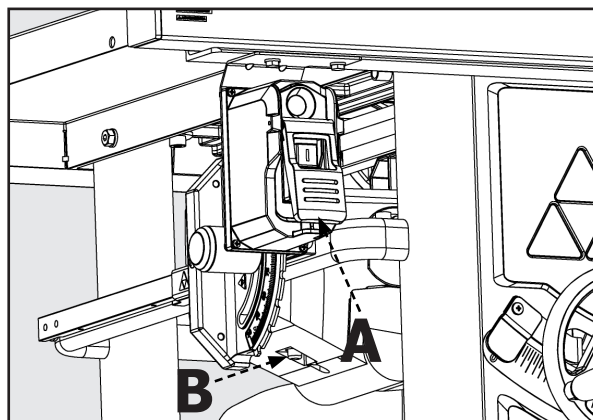

FIGURE 27
The POWER switch (Figure 27) is located underneath the front left extension wing.
Your saw is supplied with overload protection. If the motor shuts off or fails to start due to overloading (cutting stock too fast, using a dull blade, using the saw beyond its capacity, etc.) or low voltage, let the motor cool three to five minutes. Then depress the red reset button (B), reset button (B), on the motor under the saw, shown in Figure 27, and restart the saw.